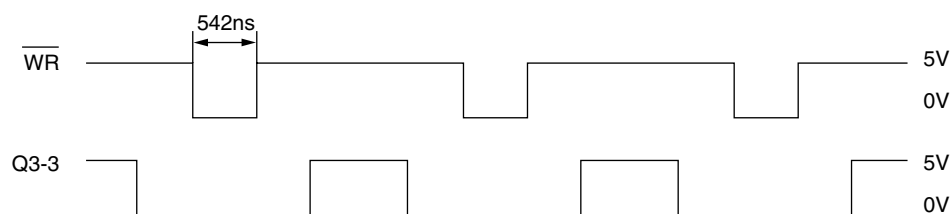

Figure B-3-5
• Yes Are \overline{WR} and BUS signals at pin 3 in Q3 as shown in Figure B-3-5?
• Yes The signal at pin 4 in Q6 the same as \overline{WR} signal in Figure B-3-5?